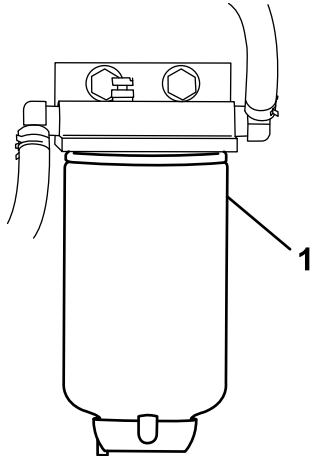

Figure 35
4. Unscrew the fuel filter from the bracket (Figure 35).